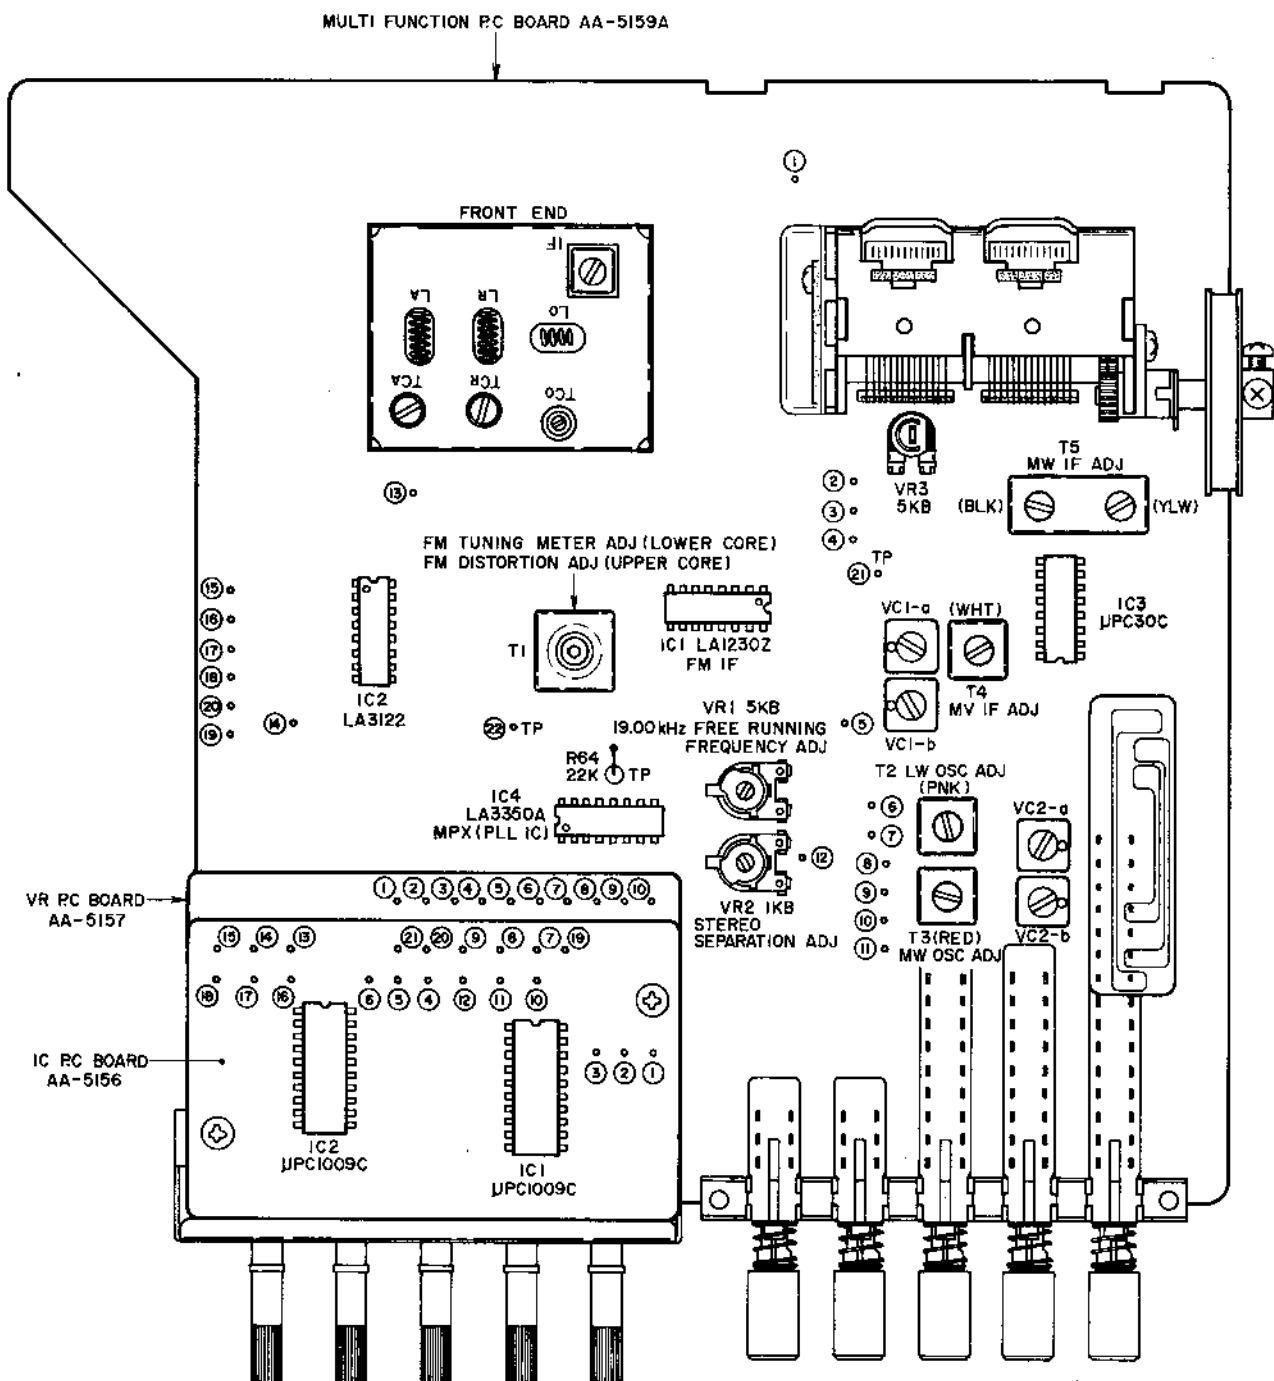

Fig. 10 Multi Function P.C Board AA-5159A
1. FM SECTION ADJUSTMENT (Refer to Fig. 10)